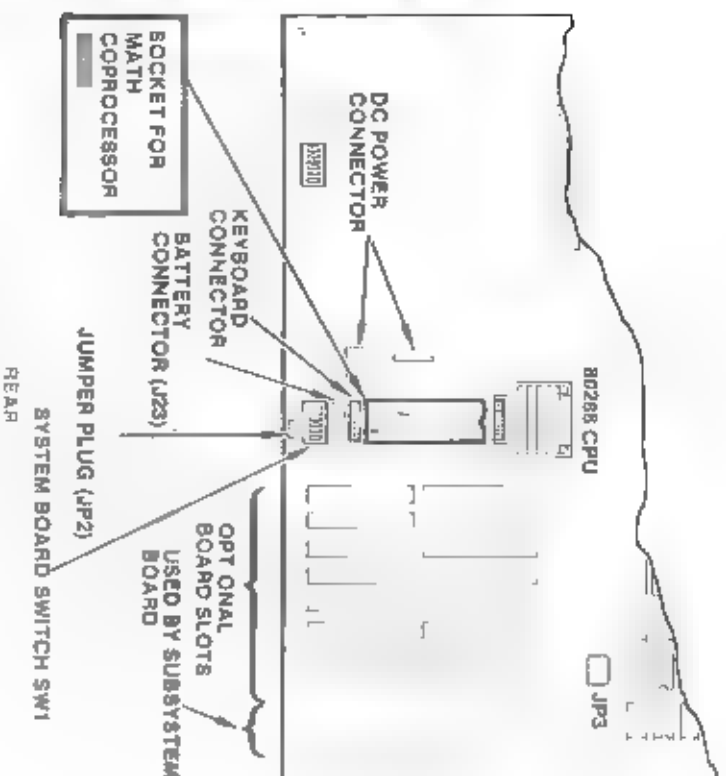

FIGURE 6-1 80287 Math Coprocessor Location
Figure 6-1 shows the location for inserting the 80287 math coprocessor chip on the system board.
2. If controller boards are blocking access to the math coprocessor socket on the system board (Figure 6-1), remove the controller boards as described in section 2.4.